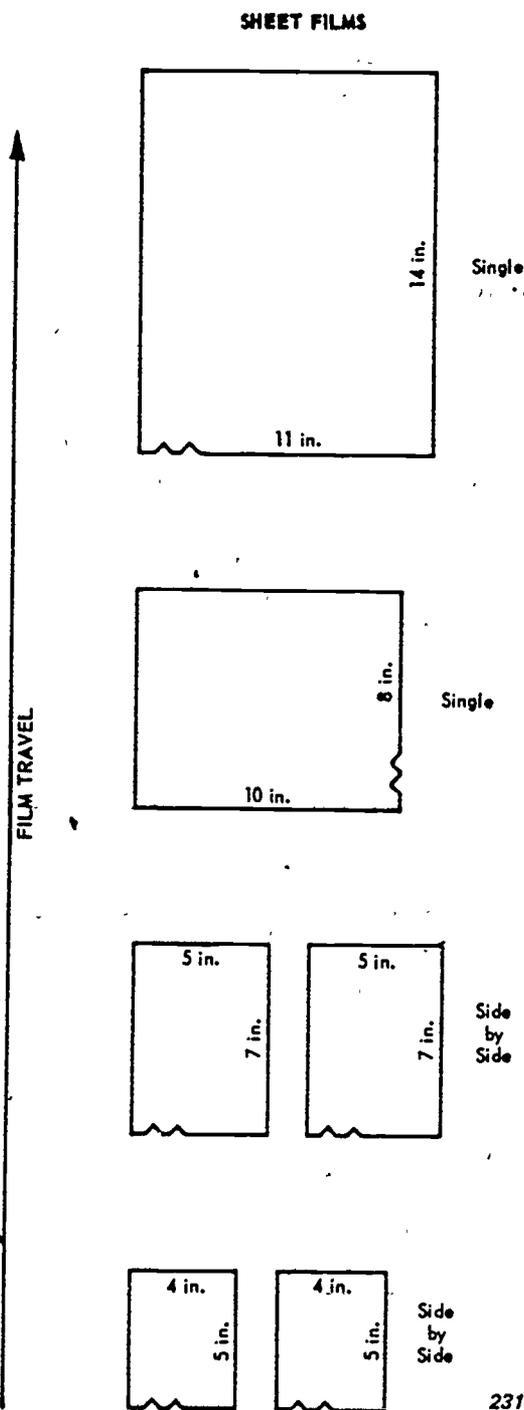

Figure 4-11. Feeding sheet film.
(1) Turn on the main (wall-mounted) power-source switch and outside water source.
(2) Turn on the dryer fan, main drive, and developer recirculating pump switches. If you are processing sheet film, press the replenishment pump switch to AUTO. If you are processing continuous lengths of thin base roll film, press this switch to MANUAL.
(3) Set the developer and wash temperatures.
(4) Set your developer and fixer replenishment rates by turning the appropriate flowmeter control knobs.
(5) After all temperatures have been reached, you can set your transport speed and begin processing.
(6) Prior to processing mission film, you should feed test film emulsion up into the processor and carefully monitor film movement through all sections. The film should then be checked for dirt and scratches which would indicate damaged, corroded, or dirty rollers.
(7) Once all is set you can start feeding your mission film emulsion side up. Be sure that the film edge (sheet film) is square with the side edge of the feed tray; then advance the film until it is picked up by the rotating detection rollers. Do not feed films less than 5 inches long. Figure 4-11 shows typical feed configuration for sheet film. Narrow films are fed side by side to avoid overreplenishment.
(8) Remember, when you are processing narrow roll film (or thin sheet film), splice a stiffening tab (bullit) made from leader material to the leading edge of the film. The butt splice is held together with Mylar tape which is impervious to chemicals. The purpose of the bullit is to guide the film through the machine.
(9) Once you have completed your processing you can shut down the machine by following these steps: Decrease the machine speed to 5 feet per minute; turn the dryer thermostat OFF; remove the top cover and side covers of the processor; turn the replenisher switch OFF; turn the developer recirculation switch OFF; turn the dryer fan OFF; turn the water OFF; remove and clean all crossovers using warm water not above 120 degrees; wipe down the crossover correctly; replace the side and top cover and turn OFF the main power.